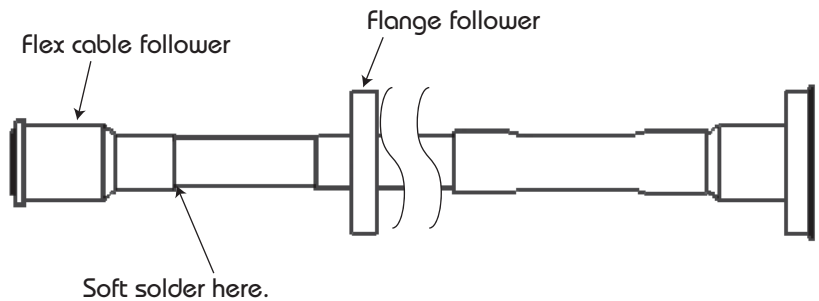

Figure 4. Install the flange.
Step 4. Install the flange (figure 4).